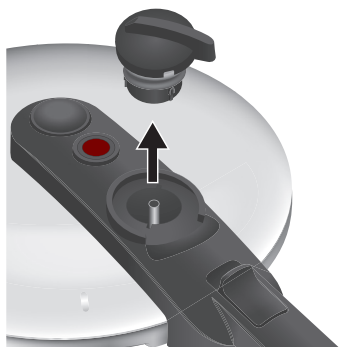

Abb. 21: Detaching the pressure regulator
4. Push the pressure regulator down and turn it to position . Lift and remove the pressure regulator (see fig. 21). Rinse the pressure regulator under running water. Also remove the silicone spring and clean separately.